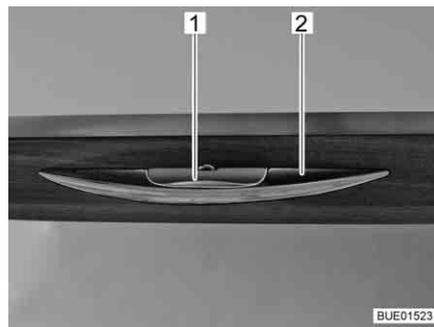

Fig. 76 Handle with unlocking bar
- Press the unlocking bar (Fig. 76,1) and hold it down.
- Pull the handle (Fig. 76,2) until the furniture flap is open.